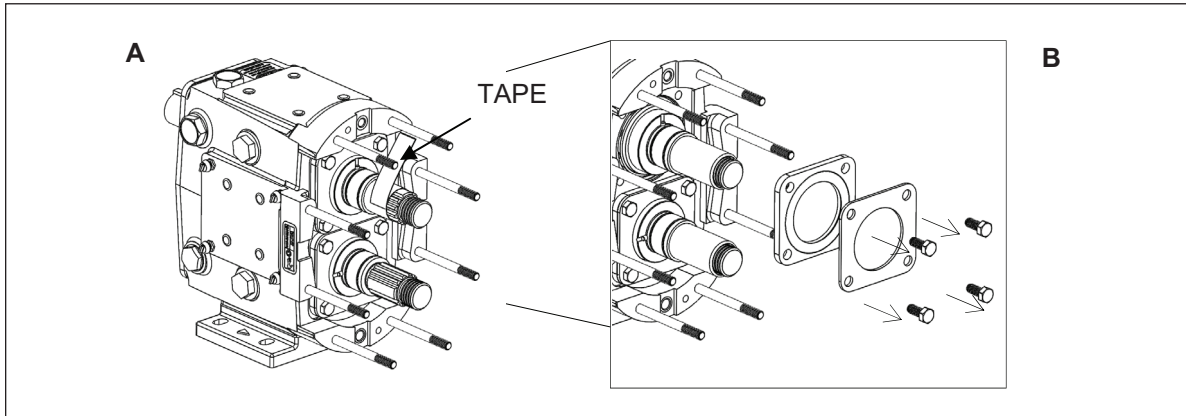

Figure 45. Tape Shafts and Remove Bearing Retainers
3. To prevent damage to the shafts, wrap the splines and rotor nut threads with tape (*Figure 45, A*). Any damage to the splines or threads may require the shaft be replaced. Remove the cap screws holding the bearing retainer and splash plates in place and slide both off the shaft (*Figure 45, B*). If they are stuck, use a flat head screw driver as a wedge to pry them from the gear case or leave them in place and when the shafts are removed they will press off with the shafts. Using a straight edge, remove the liquid gasket used to seal bearing retainer to the gear case.